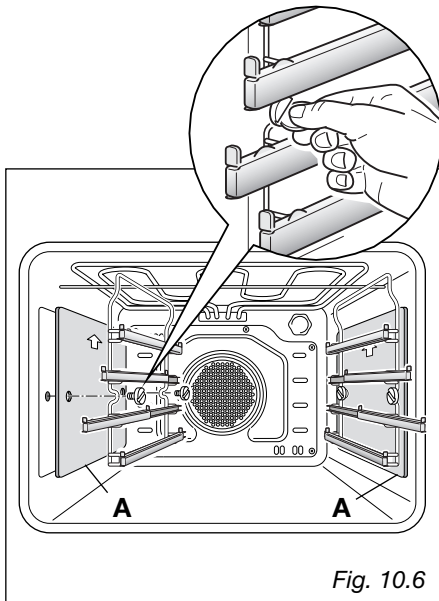

Fig. 10.6
- Assemble the sliding shelves on the oven walls using the 2 screws (fig. 10.6).
- In the models with catalytic panels interpose the catalytic panels "A" with the arrow up (fig. 10.6).
- Unscrewing the fixing screws and slide off the sliding shelves and the catalytic liners (if supplied) to the oven wall as in fig. 10.6.